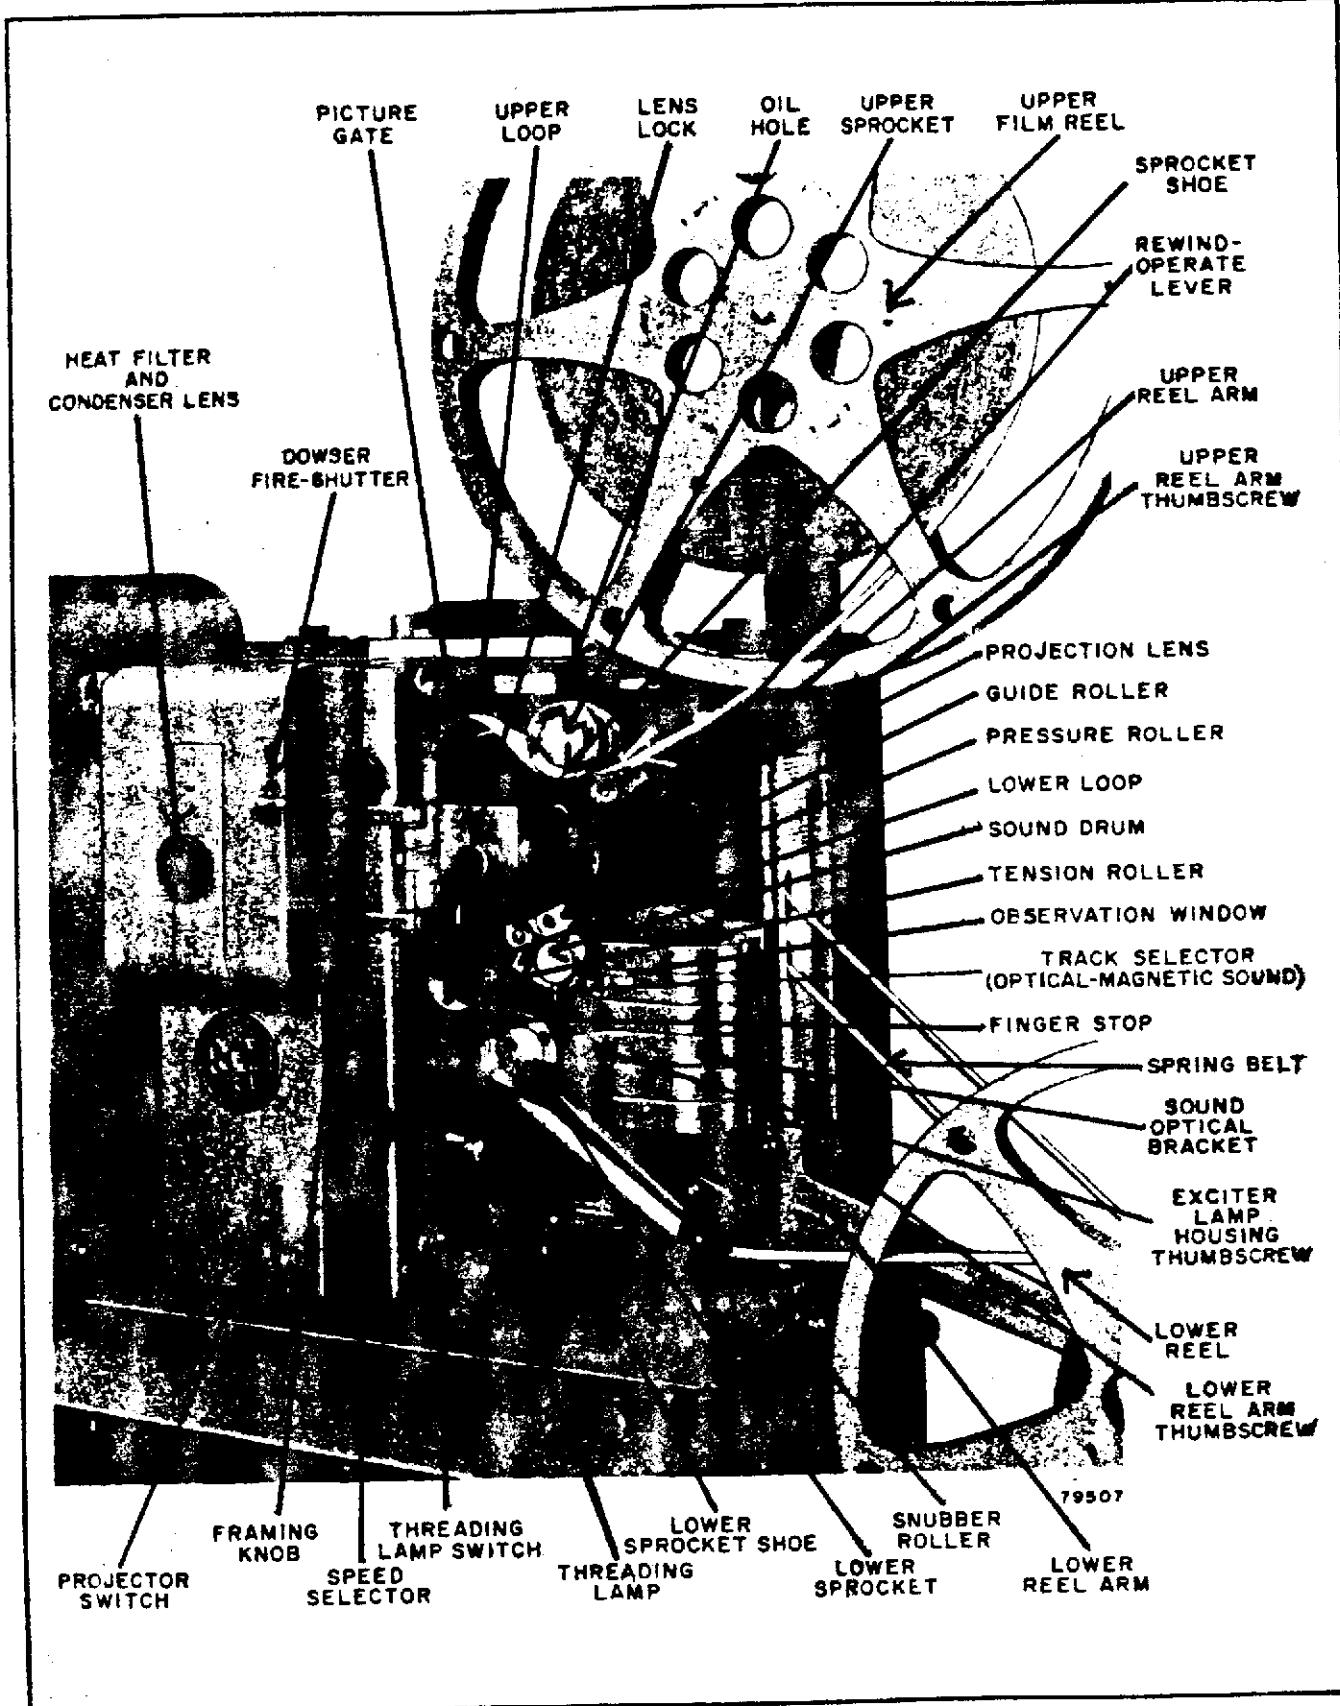

Figure 7 — Operating View of Projector
Fasten the reel arms, see figure 7, in place with the thumbscrews and pull out the spring belts and put them over the pulleys on the arms. Make sure the belts are not twisted.
Strike the arc lamp, and after it is operating steadily, start the projector motor by throwing the PROJECTOR switch on, see figure 7. Turn the SPEED SELECTOR upward to SILENT, or downward to SOUND, as required. Unlatch the dowser-fire shutter and align and focus the aperture outline on the screen.
Refer to figure 7 and thread the projector in the following manner:
NOTE: The sound lamp lights within 15-30 seconds after the amplifier power switch has been turned on. It can be observed through the observation window, see figure 7, in its housing.
NOTE: Occasionally, damaged film may prevent the intermittent pull-down claw from properly engaging the sprocket holes in the film. This may result in the loss of the lower loop. When this happens, the picture on the screen is blurred. The difficulty can be remedied immediately, without stopping the machine, by placing a finger above the film as it emerges from the lower end of the picture gate and quickly pulling down on the film until the finger strikes the finger stop, see figure 7.
3. Turn the TRACK SELECTOR to MAGNETIC, see figure 7, and operate the projector in the manner described under *Operating an Optical Sound Projector*, above.